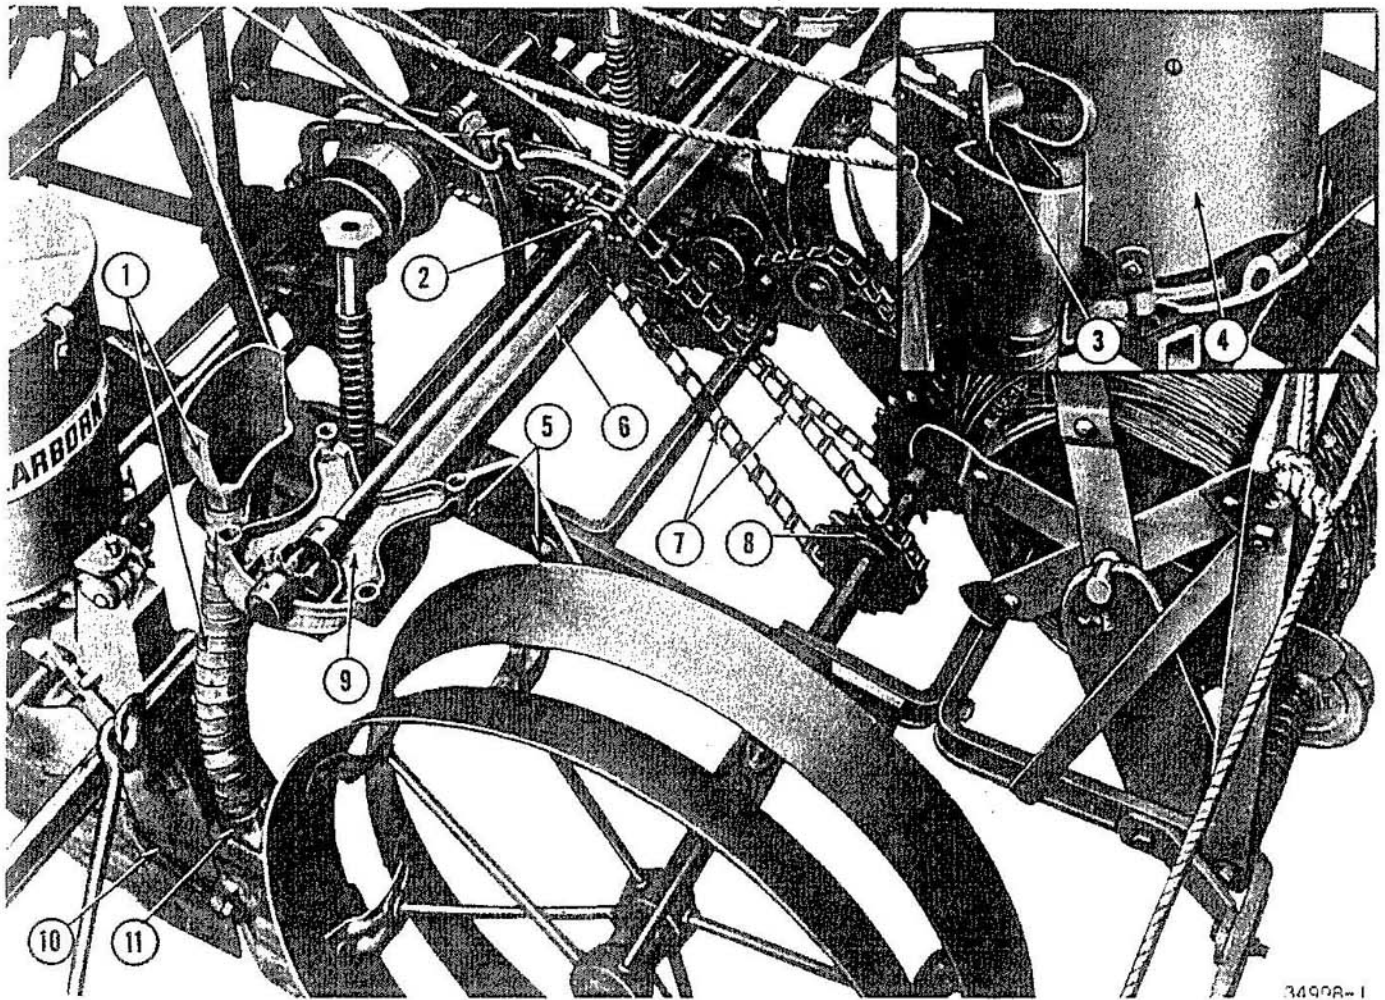

Figure 12
1. Place the fertilizer drive sprocket (8), Figure 12, on the planter axle shaft as follows:
- f. Place the sprocket (8), Figure 12, on the axle shaft so that the cotter pin hole is towards the right side of the planter.
2. Place the fertilizer frame (6), Figure 12, on the planter frame as shown. Position the fertilizer drive chain (7) around the upper and lower sprockets (2) and (8) and connect the chain links. The open end of the chain links should be outside and run forward over the top of the sprocket. Secure the fertilizer frame to each side of the planter frame with the bolts (5), flat-washers, lockwashers and nuts provided.
3. Attach a fertilizer boot (11), Figure 12, to the rear of each runner assembly with a U-bolt (10).
4. Attach the fertilizer spout and ribbon tube assembly (1), Figure 12, to the fertilizer frame as shown. Place a ribbon tube in the fertilizer boot (11).
5. Place a fertilizer hopper (4), Figure 12, on each mounting base (9) and secure with the four wing nuts provided. The feed adjusting lever (3) should face the front of the planter as shown.
Drive Chain: To obtain proper tension on the fertilizer drive chain (7), Figure 12, move the fertilizer frame forward on the planter frame. It may be necessary to remove some links from the chain, and if so, the extra links should be saved.